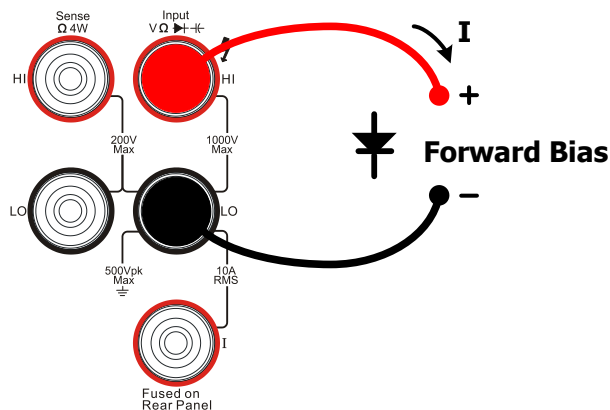

Figure 2-28 Sketch map for connecting
1. Connect test leads as shown in Figure 2-28, red lead connects with Terminal HI, black lead connects with Terminal LO.